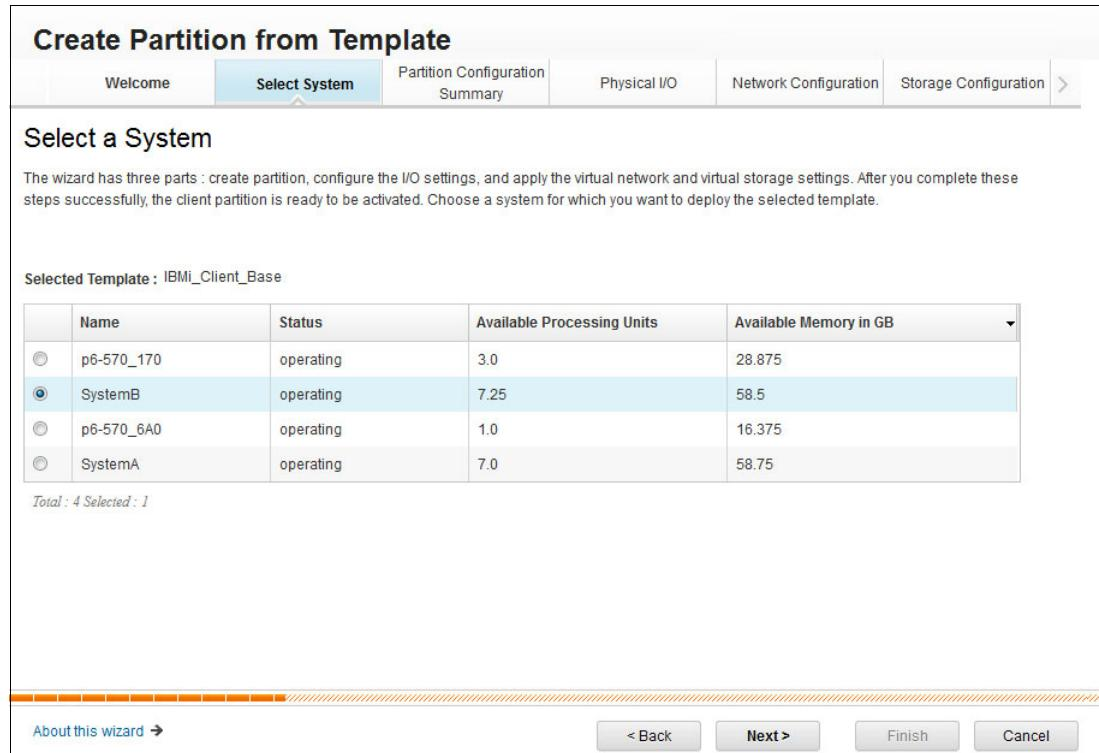

Figure 2-91 Deployment: system
3. In the Select System tab, select the managed system that you want to deploy with the selected template. For this example, SystemB is selected, as shown in Figure 2-91.